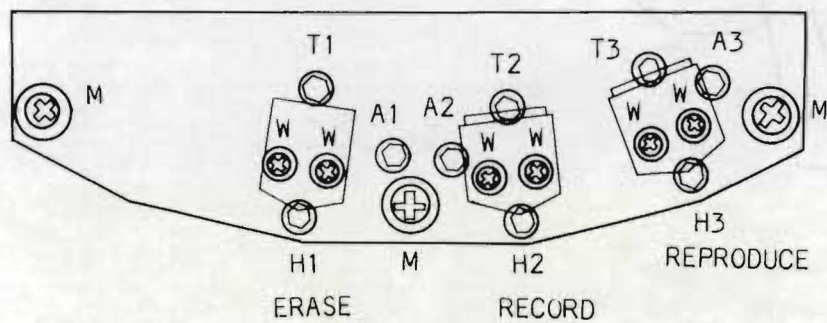

Figure 7-5 Head Assembly
DO NOT ADJUST ANY OTHER SCREW EXCEPT THE AZIMUTH ADJUSTMENT SCREW (LABELED "A3" IN FIGURE 7-5).
*DO NOT ADJUST ANY OTHER SCREW EXCEPT THE AZIMUTH ADJUSTMENT SCREW (LABELED "A2" IN FIGURE 7-5).*
**7-6-(8) RECORD BIAS ADJUSTMENT**